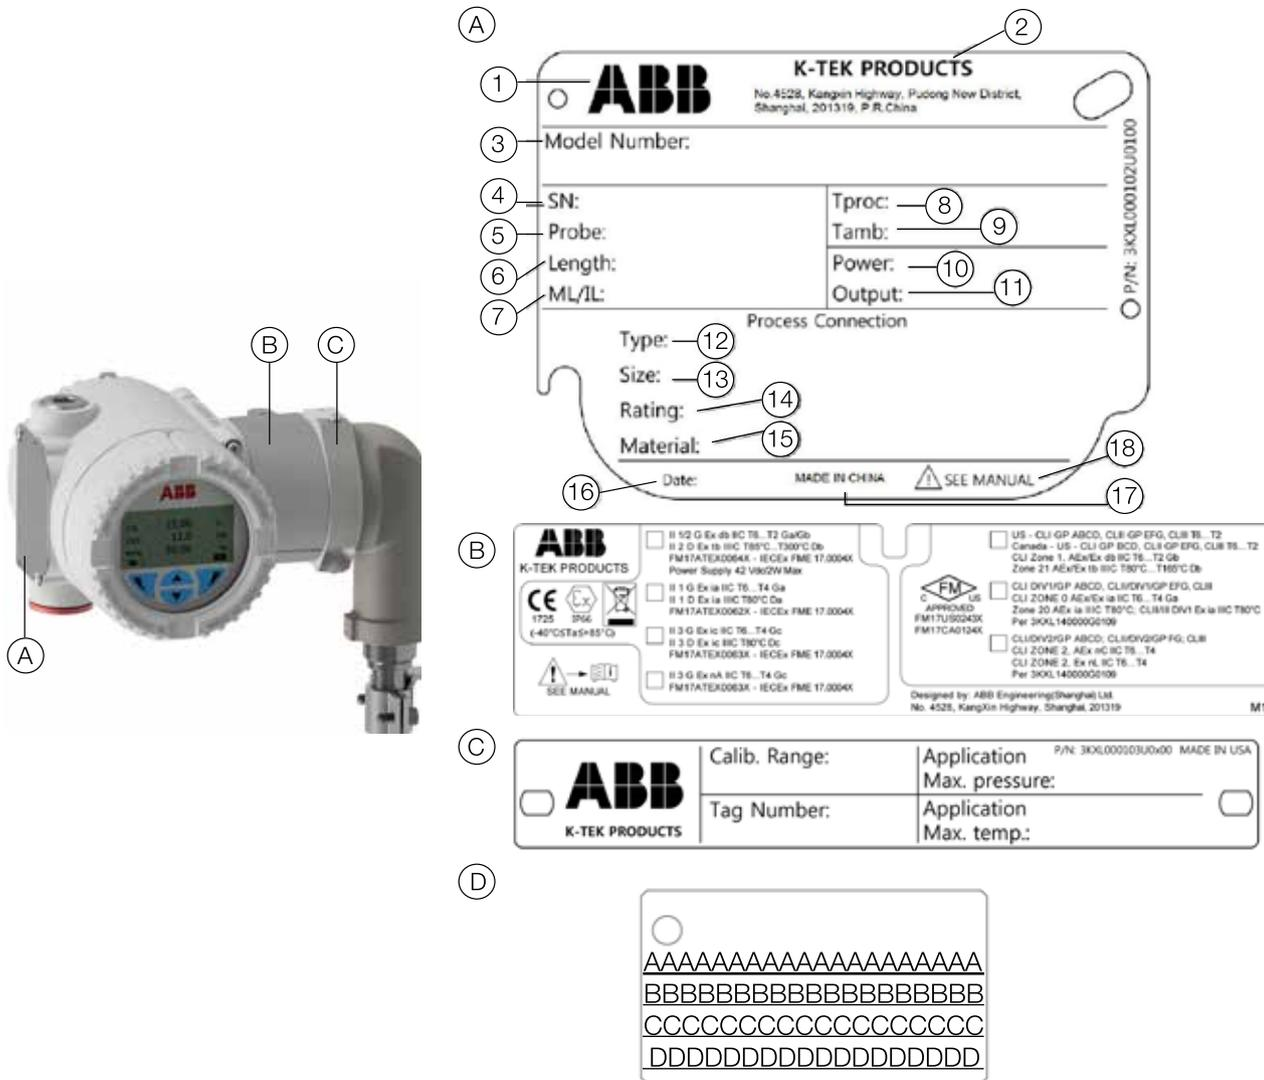

Figure 1 Name Plates
- If the instrument is not intended for use in any of the applicable hazardous areas classifications, mark the General Purpose box on the product label. (See figure 1)
^(A) The nameplate provides information (see figure 1) concerning the model number, probe length, sensor material, process connection type, process connection material, maximum pressure ratings, power supply, output signal, serial number, maximum processed temperature limits and Maximum ambient temperature limits.